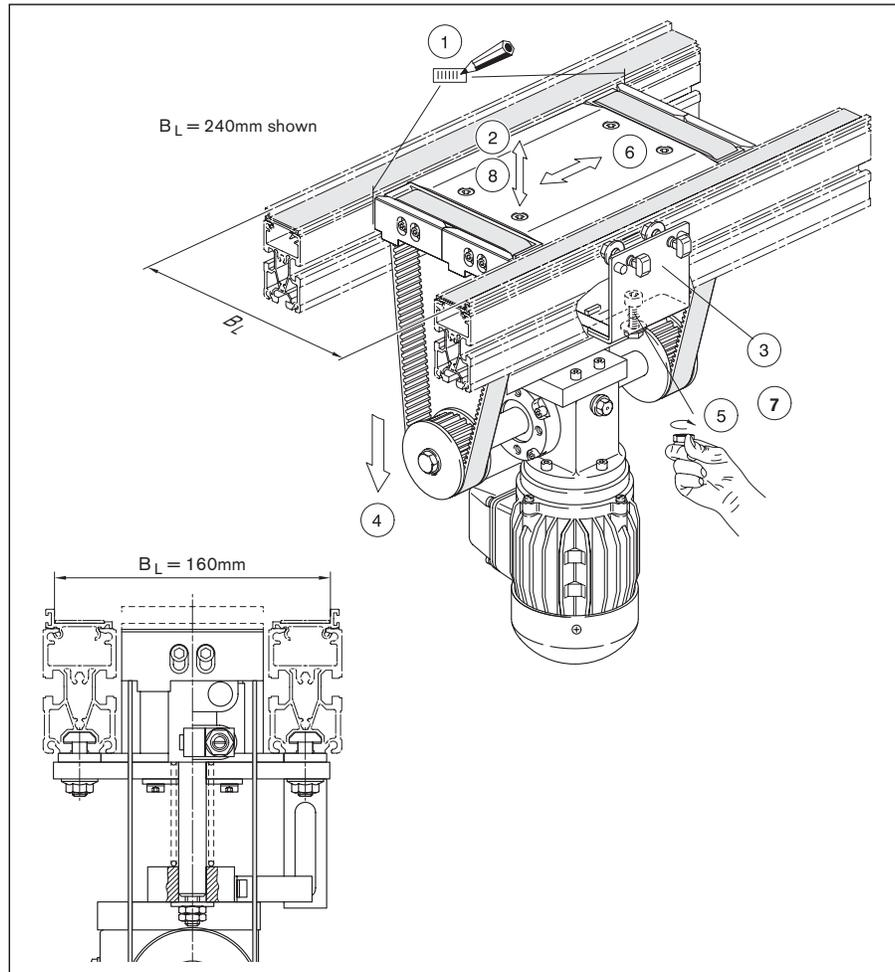

Figure 4
### Attach LTU to Conveyor Section (Fig. 4 and 5)
- 7 Refer to Fig. 4 and tighten the M8 flange nuts in the mounting brackets and mounting plate to 25 Nm (19 lb-ft).